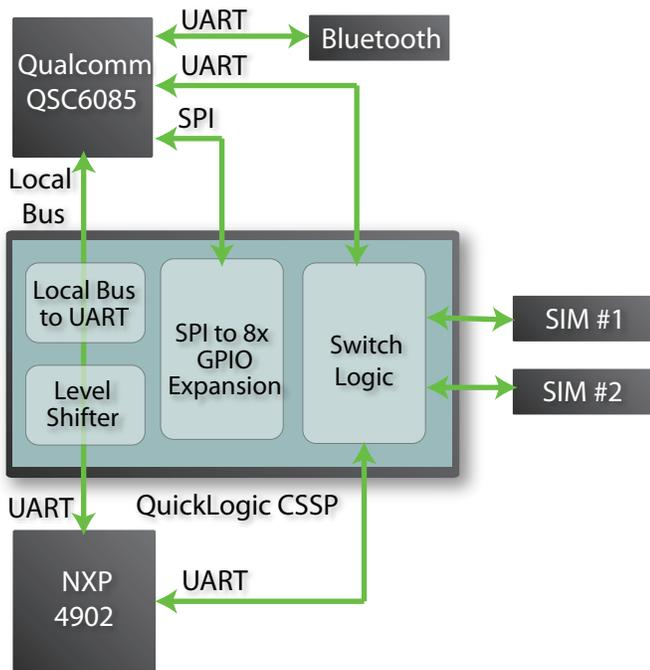

Figure 3. Low Bandwidth Implementation
- Indirect communication through a mailbox (Figure 3)
Figure 3 demonstrates how to bridge a Qualcomm QSC6085 processor with a NXP 4902 processor. As shown, the QSC6085 has used all its UARTs and cannot directly connect to the NXP processor. Utilizing the local bus on the QSC6085, a local bus-to-UART bridging function, along with a voltage level shifter, is implemented inside the CSSP to facilitate inter-processor communication. Furthermore, additional functions such as GPIO expansion, I2C, and SPI can be integrated.